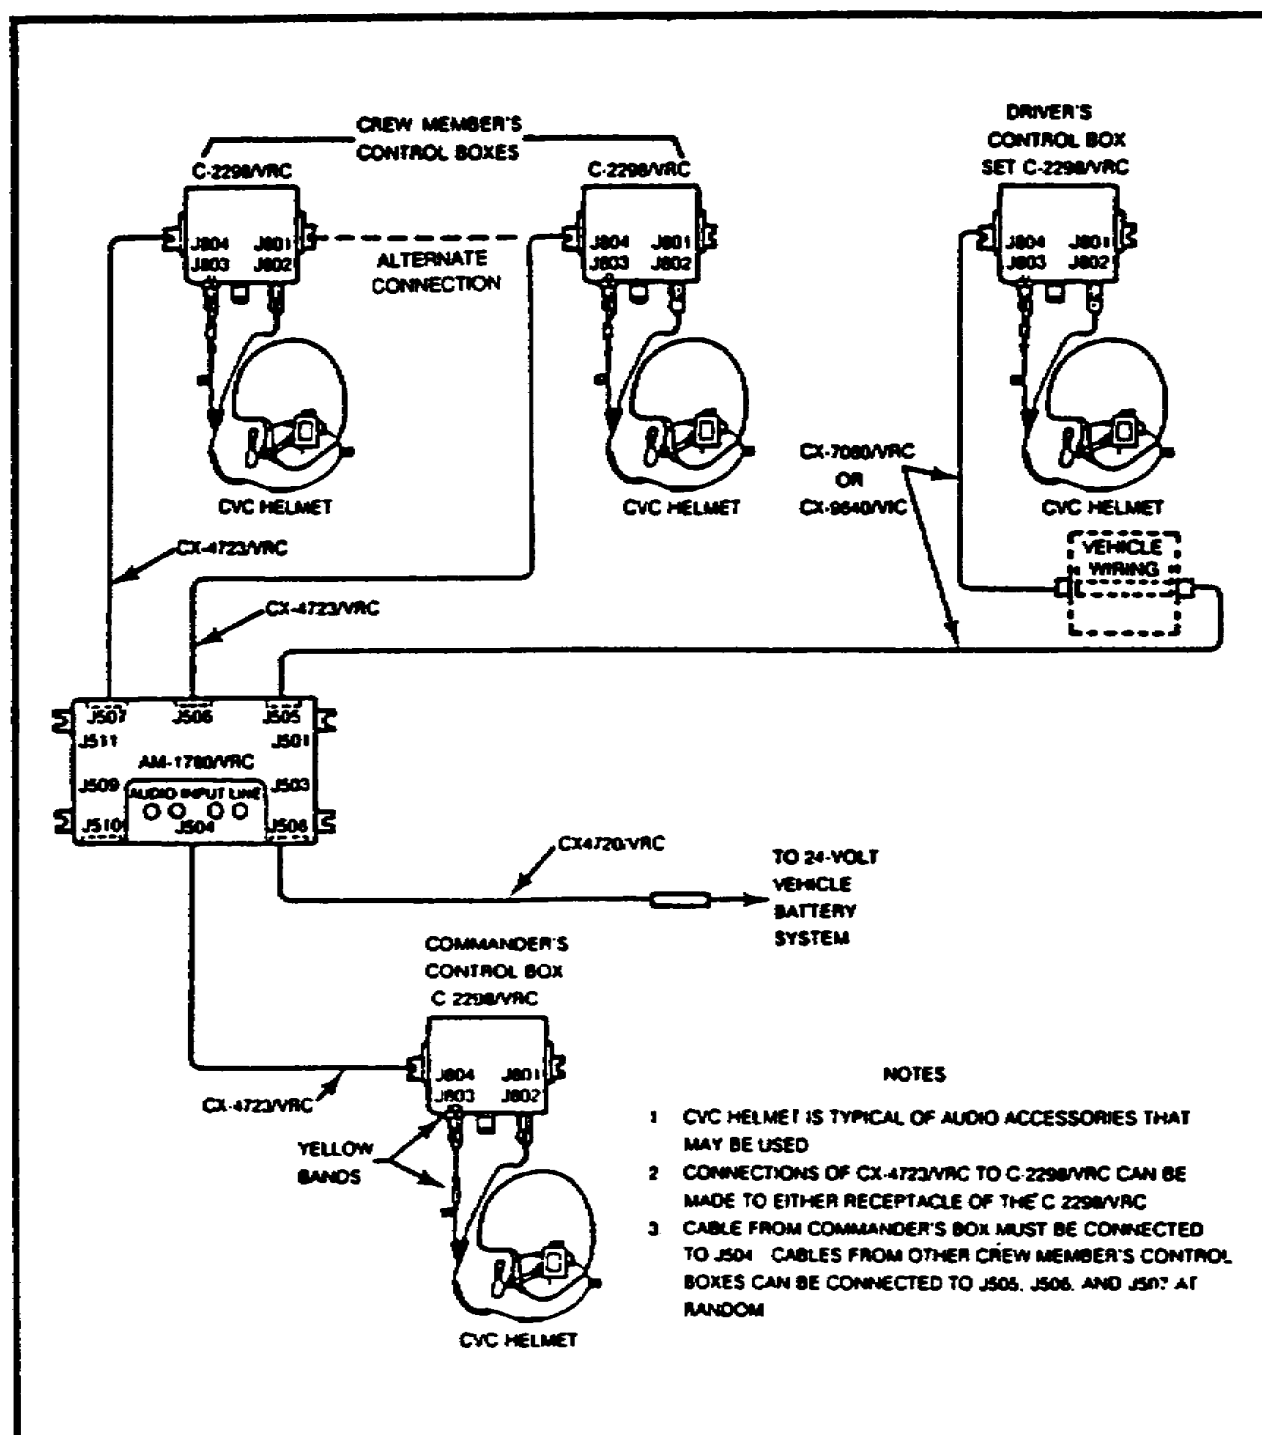

Figure 14. Typical AN/VIC-1(V) cabling for intercom operation.
r. See Figure 14. When cabling the intercom for operation, the power cable is connected to jack J508 on the AM-1780. The commander's C-2298 control box will be connected to jack J504 on the AM-1780. The crew member's C-2298 control boxes will be connected to jacks J505, J506, and J507 on the AM-1780. The audio accessories will be connected to jacks J803 and/or J803 and J802.